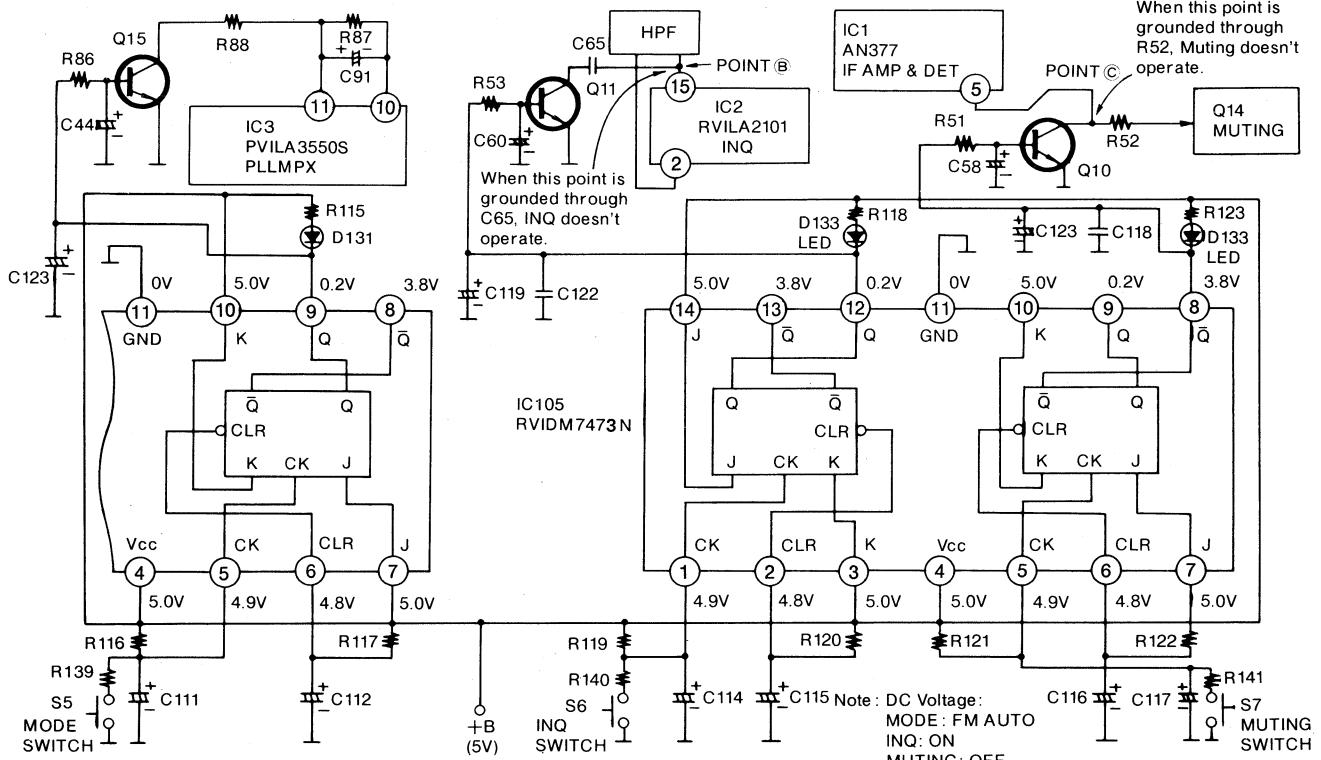

Fig. 29
2. Because Q10 is ON, the muting control voltage from IC1 [point C in figure 29] is forced to decline, preventing normal